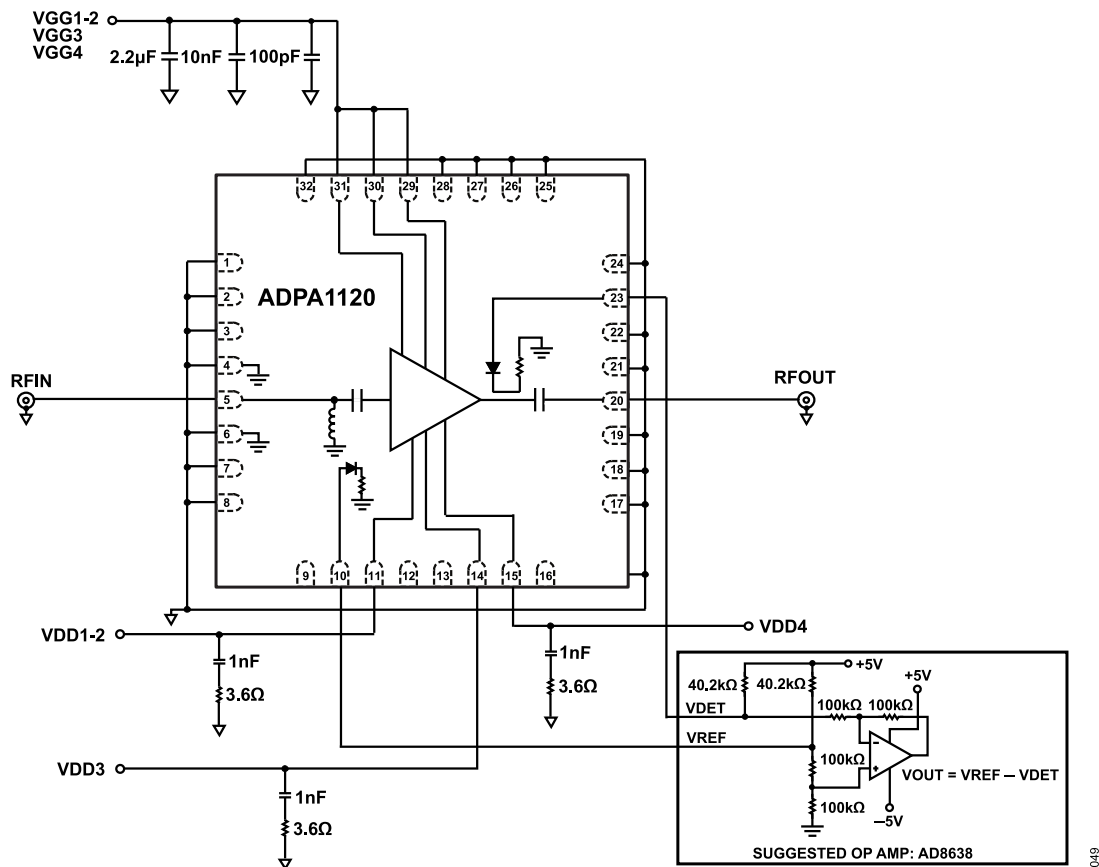

Figure 49. Basic Connections
The basic connections for operating the ADPA1120 are shown in Figure 49. Apply a power supply voltage between 14V and 20V to the VDD1-2, VDD3, and VDD4 pins. Decouple the VGG1-2, VGG3, VGG4, VDD1-2, VDD3, and VDD4 pins with the capacitor and resistor values shown in Figure 49. The gate bias pins, VGG1-2, VGG3, and VGG4, are used to bias the ADPA1120. Pin 1 to Pin 3, Pin 7 to Pin 9, Pin 12, Pin 13, Pin 16 to Pin 19, Pin 21, Pin 22, Pin 24 to Pin 28, and Pin 32 are designated as the not internally connected (NIC) pins. Although these NIC pins are not internally connected, the NIC pins were all connected to ground during the characterization of the device.
All measurements and data shown in this data sheet were taken using the basic connections circuit (see Figure 49) and biased per the conditions in this section, unless otherwise noted. The bias conditions described in this section are the operating points recommended to optimize the overall device performance. Operation using other bias conditions can result in performance that differs from what is shown in the Typical Performance Characteristics section. To obtain optimal performance while not damaging the device, follow the recommended biasing sequences described in this section and adhere to the values shown in the Absolute Maximum Ratings section.
1. Connect all power supply, ground, and control signals to the ADPA1120, see Figure 49.